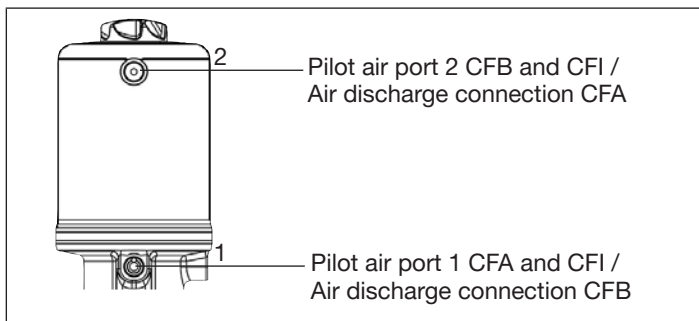

Fig. 10: Pneumatic connection
(see “Fig. 10: Pneumatic connection”).
- Connect the control medium to the pilot air port 1 and 2 of the actuator (see “Fig. 10: Pneumatic connection”)